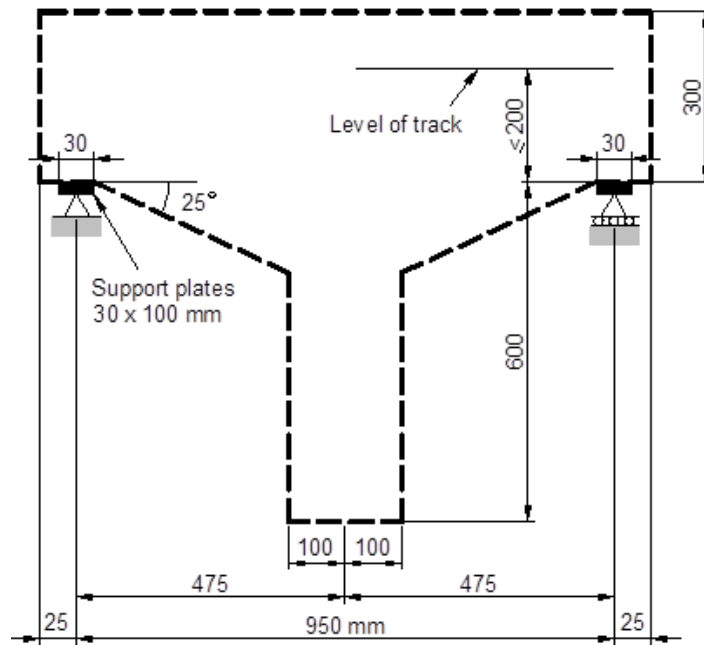

Figure 2: Important Dimensions. The broken-line contour defines the maximum allowed dimensions of the bridge in elevation. All dimensions in mm.
21. The bridge must fit within the envelope shown in Fig. 2 in the Appendix.